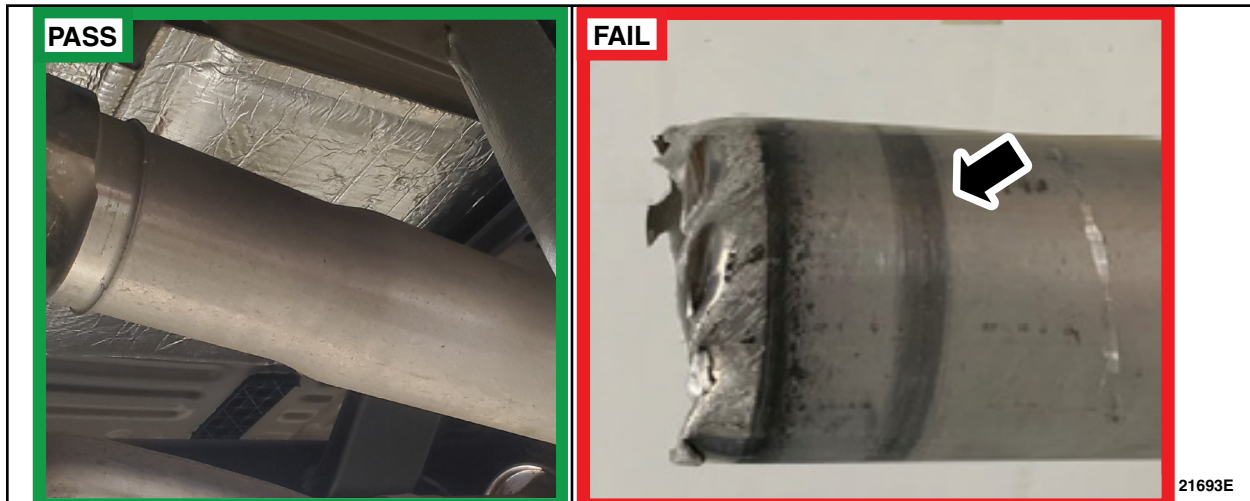

FIGURE 3
2. Inspect the rear driveshaft for any marks caused by the passenger side insulator. Are there any marks present on the driveshaft due to contact from the insulator? See Figures 3 and 4.